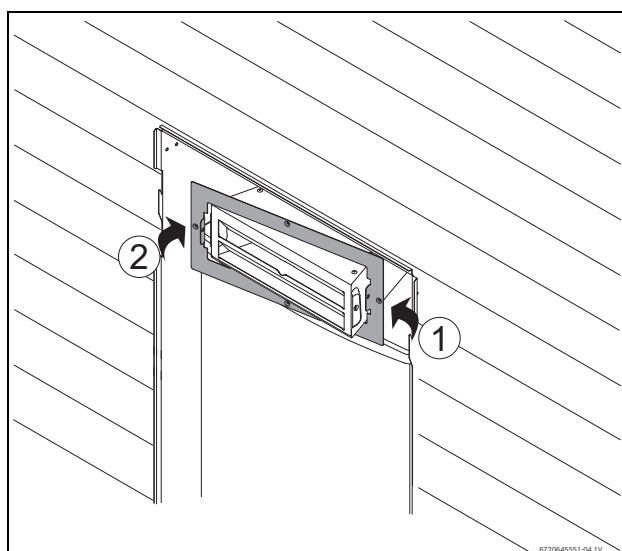

Fig. 16
- Tilt the frame on one direction, as showed in Fig. 16.